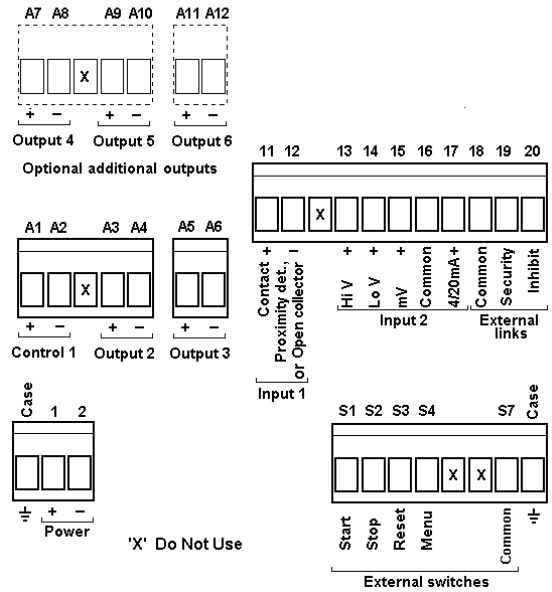

Fig 10 Installation and terminal connections
- b. Fix panel mounting clips to opposite sides of the instrument and tighten until the instrument is secure as shown in Fig 10. Four clips are required to achieve an IP65 seal between the instrument enclosure and the panel.
- c. Connect the panel wiring to the rear terminal block(s) as shown in Fig 10. To simplify installation, the terminals are removable so that panel wiring can be completed before the instrument is installed.